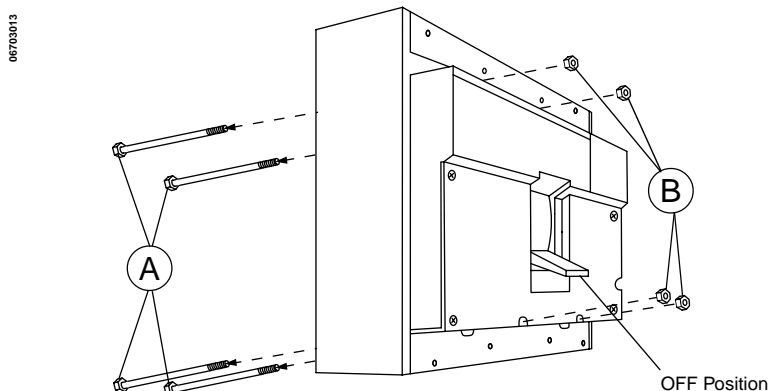

Figure 3: Removing Factory-installed Screws
1. Remove factory-installed screw (A, Fig. 3) from circuit breaker hole where mounting screw is to be used.
2. Remove hex nuts (B) from front of circuit breaker.